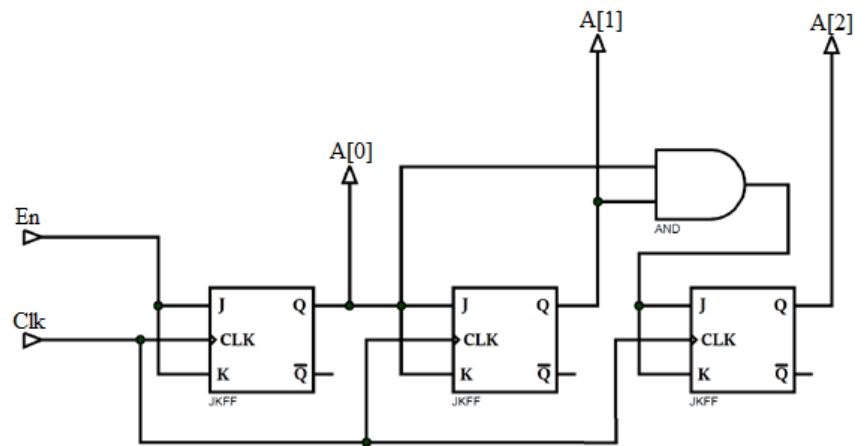

Figure 10.1: Synchronous 3-bit up-counter
1. In this task, you are given the sequential circuit of Figure 10.1 to implement and analyze. This is a *synchronous 3-bit up-counter* with one input  $En$  and three output bits  $A[2] - A[0]$ , where  $A[2]$  is the MSB. Write Verilog module for this circuit using JK flip-flop module from last lab hierarchically inside your counter module. [4]